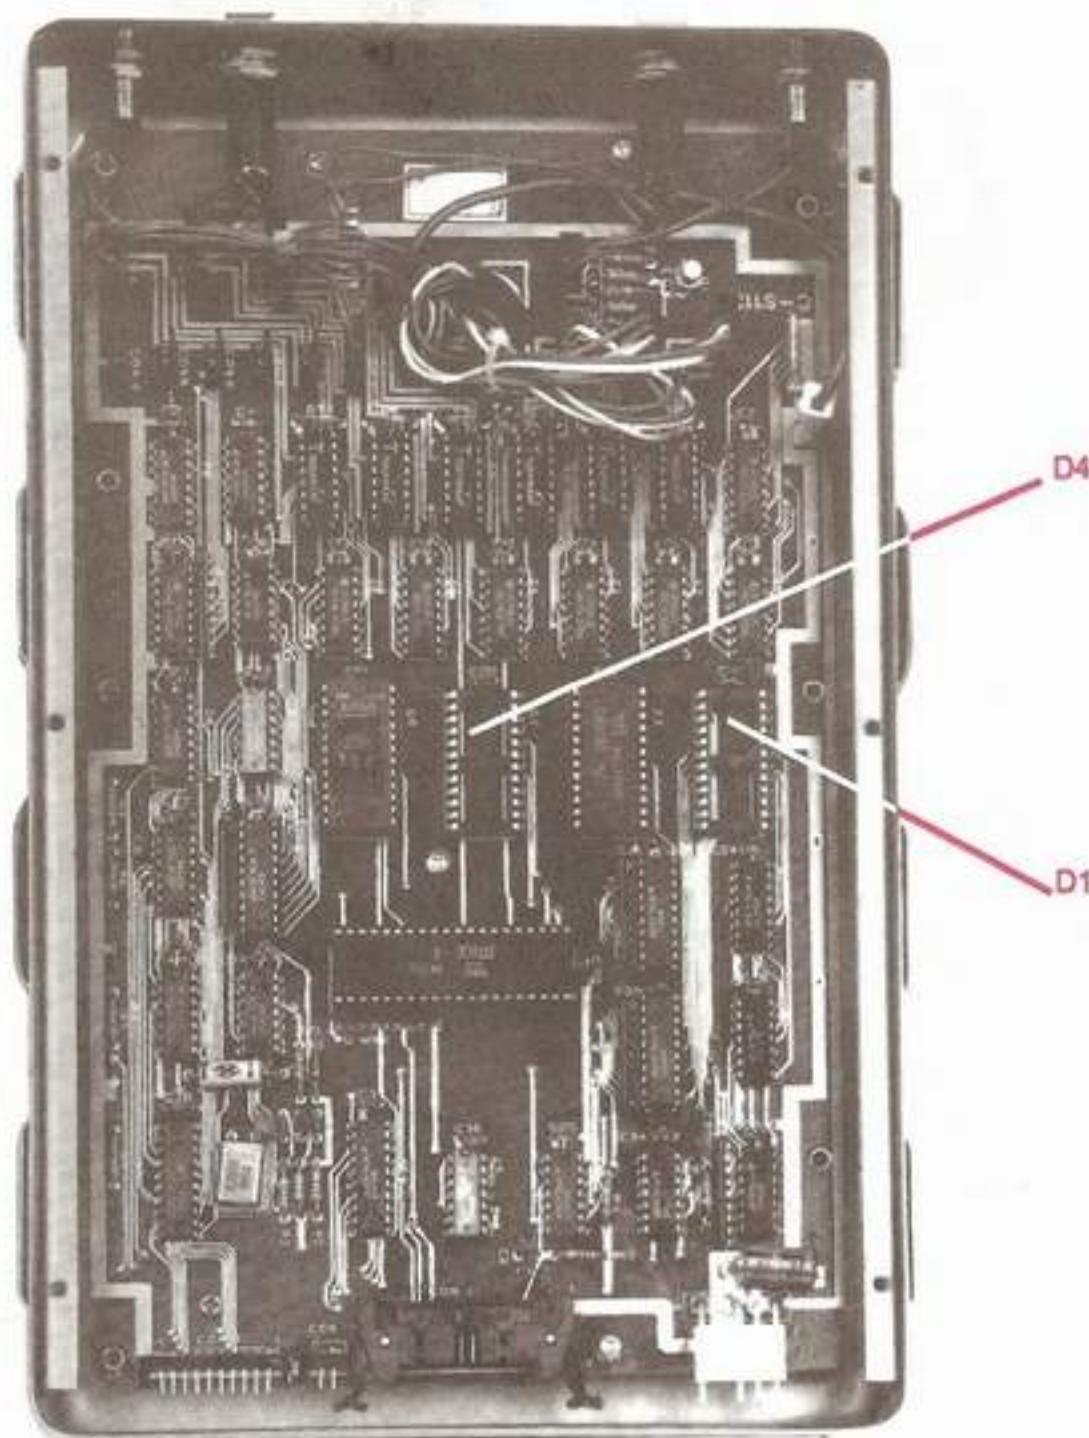

Fig. 63: Memory Area of the PCB
In the Pro-Arm, RAM is contained in a 24-pin DIP (**Dual In-line Package**) chip inserted into socket **"D3"** on the printed-circuit board (see Fig. 63). This chip holds 2048 8-bit locations (**2K**) for data. Since memory
An additional RAM chip may be added in order to expand the memory capacity of the Pro-Arm up to 270 axes positions, doubling the Pro-Arm's existing RAM capabilities from 2048 8-bit locations to 4096 8-bit locations (**4K**). Before going any further, find empty IC socket **"D4"**, located on the PC board underneath the baseplate, as shown in Fig. 63. The following lab exploration can be used when RAM memory expansion becomes desirable.
- c. Insert a 4016 or a 6116 RAM IC into the "D1" socket. (Refer to Fig. 63). *Note: An IC just like it should already be inserted into socket D3. Caution: Make sure that Pin #1 on the chip is aligned with the Pin #1 marking on the socket.*
- c. Insert the 2732 EPROM IC containing the program you wish to internalize into the "D4" socket. Refer to Fig. 63. *Note: An IC just like it, containing the two self-test programs, should already be inserted into socket "D6". Information on the proper programming of the 2732 EPROM is not a part of this project. You will need to familiarize yourself with the Z-80 Microprocessor command set and have some previous programming experience to successfully accomplish this task. You may consult the documentation included with your EPROM burner for further details.*